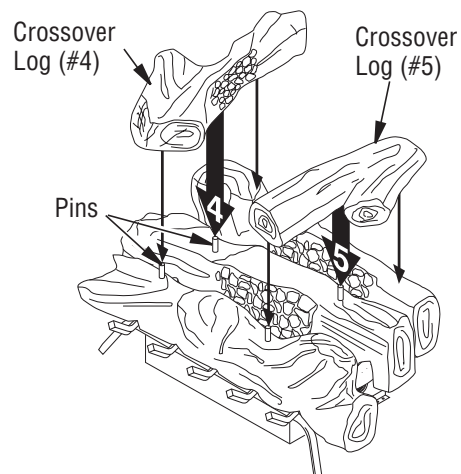

Figure 28 - Installing Crossover Logs (#4 & #5) (Base may vary from illustration)
4. Place left crossover log (#4) across logs #1, #2 and #3 fitting holes on bottom of log #4 onto pin on front and middle logs as shown in **Figure 28**.
5. Place right crossover log (#5) in the same manner on right side of logs (see **Figure 28**).